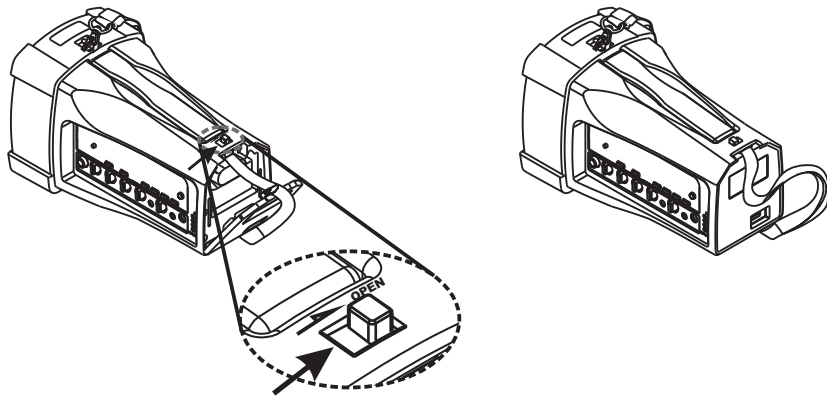

Fig. 36
(F) Push latch to OPEN position with left hand and simultaneously replace the battery cover into place with right hand. Push latch to left to close and for a secured lock, Fig. 36.